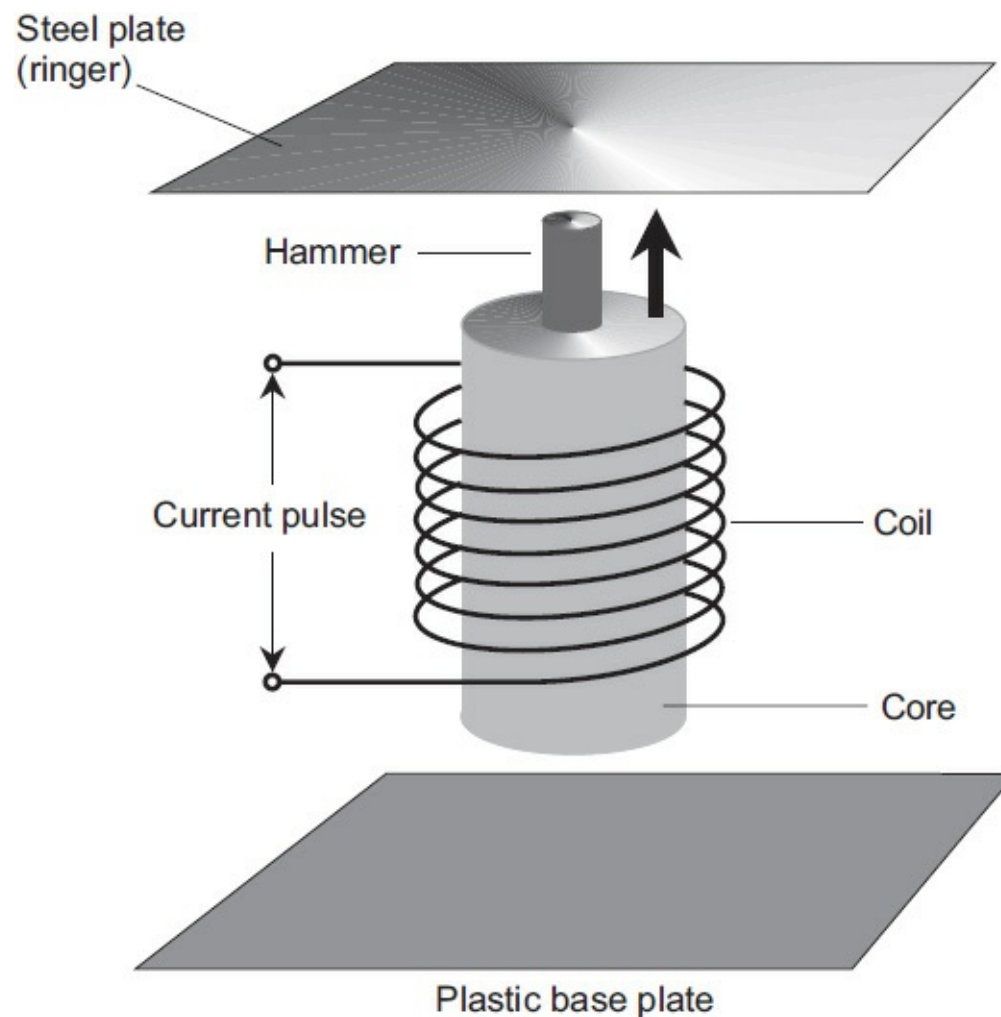

FIGURE 1-12 A bell ringer, also known as a chime.
Figure 1-12 illustrates a *bell ringer*, also called a *chime*. The ferromagnetic core has a hollow region in the center along its axis, through which a steel rod, called the *hammer*, passes. The coil has many turns of wire, so the electromagnet produces a strong field if high current passes through the coil. When no current flows in the coil, gravity holds the rod down so that it rests on the base plate. When a pulse of current passes through the coil, the rod jumps up and hits the ringer plate.
- In a chime, such as the one shown in Fig. 1-12, the magnetic field “wants” the ends of the rod, which has the same length as the core, to align with the ends of the core. Why doesn’t the rod stop at that point? Why does it continue on up to hit the ringer?